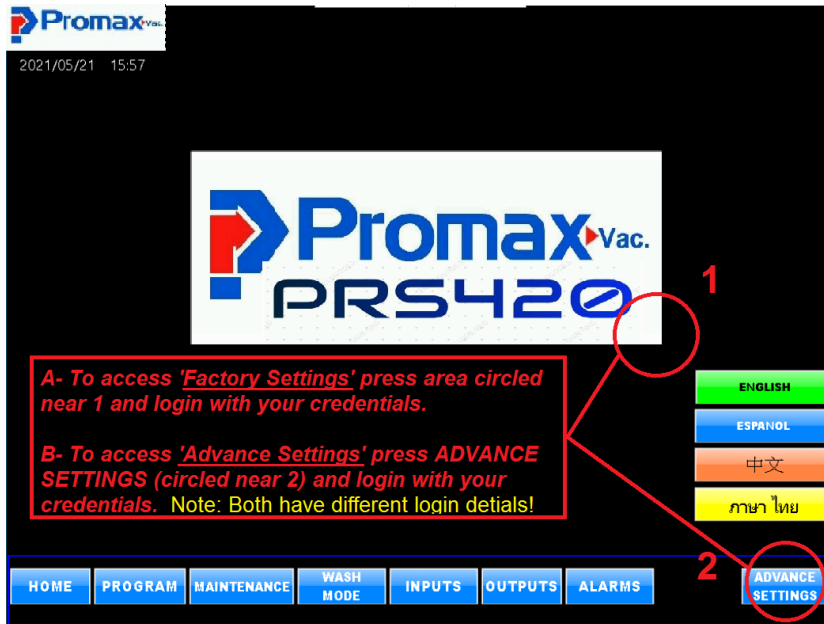

Fig.OP-5.23
-Press the marked (circled) points on the screen as shown in the below picture (Fig.OP-5.23) to access to factory reset option.